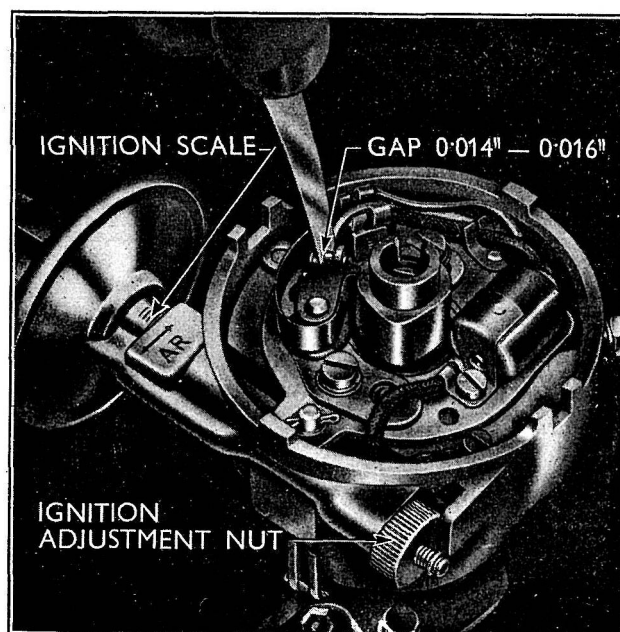

Fig. 245
- 3 Slacken the locking screws securing the adjustable contact to the breaker plate and adjust the points gap to **0.014 in.–0.016 in.** This adjustment is made by turning the eccentric screw (see Fig. 245).
- 4 Ensure that the contact points abut squarely and adjust the contact breaker points as described. (See Fig. 245.)